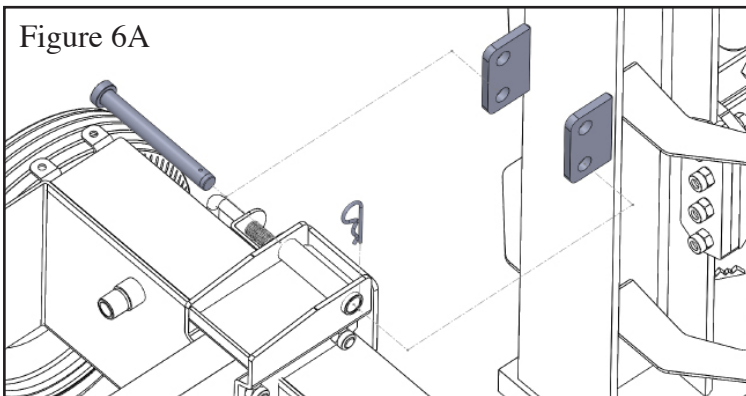

Figure 6A
2. Align the beam pivot bracket (5) with the pivot mount (1). Insert the pivot pin (2) (Figure 6A & 6B, next page).